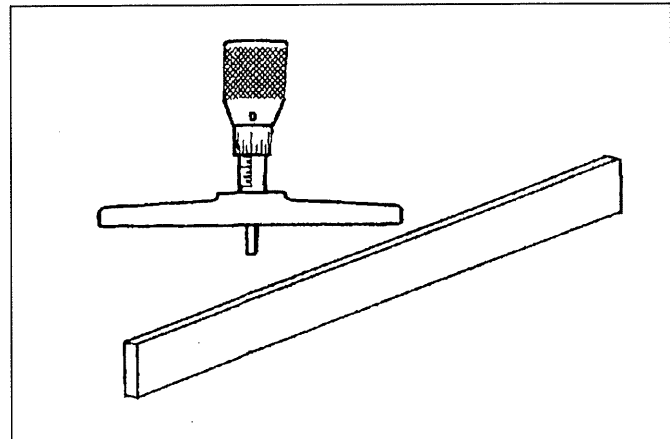
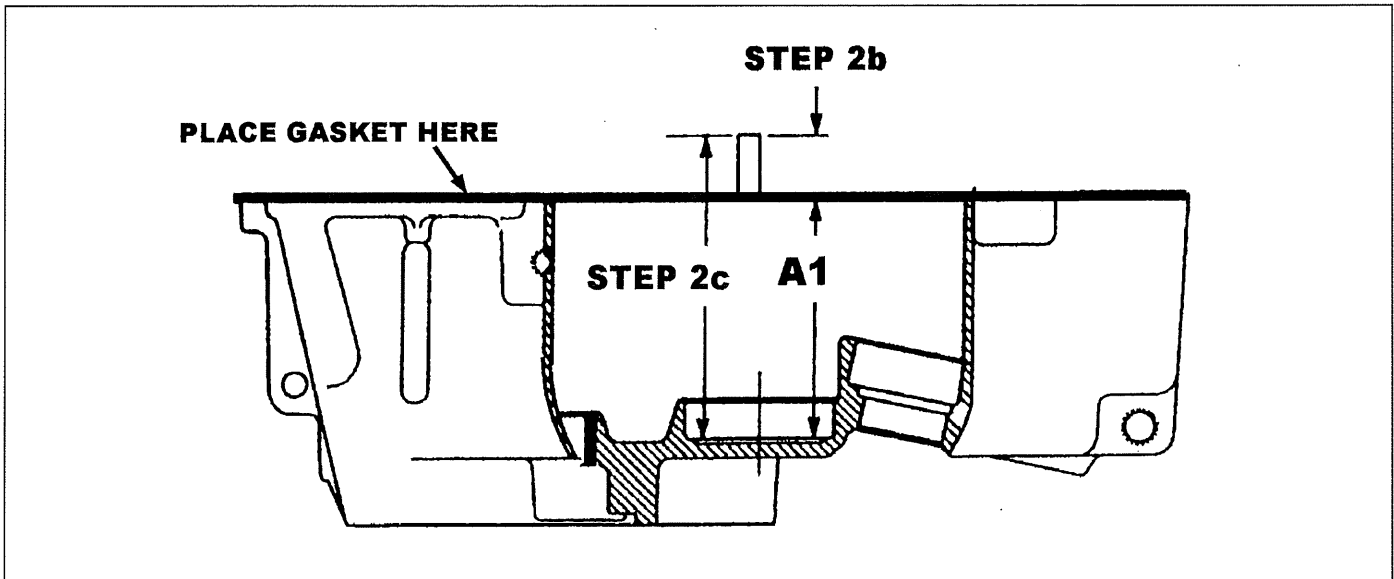

Figure 1-2: Depth micrometer and straight edge
Figure 1-3: Case cut away
PROCEDURE A depth micrometer with extensions to reach six (6) inches, and a straight edge bar (figure 1-2) are required. **It is extremely important the straight edge is true and has no bends.**
1. Remove both bearing cups (137 & 142) and shims (138) from the casing (160) and cover (129). A heat lamp or suitable substitute will be required. Usually ten minutes with a 600 watt lamp will do the trick.
2. Measure the distance from the gasket surface to the bearing cup seat in the case as shown in figure 1-3.
a. Place a cover gasket (130) on case surface. Use petroleum jelly to hold in place.